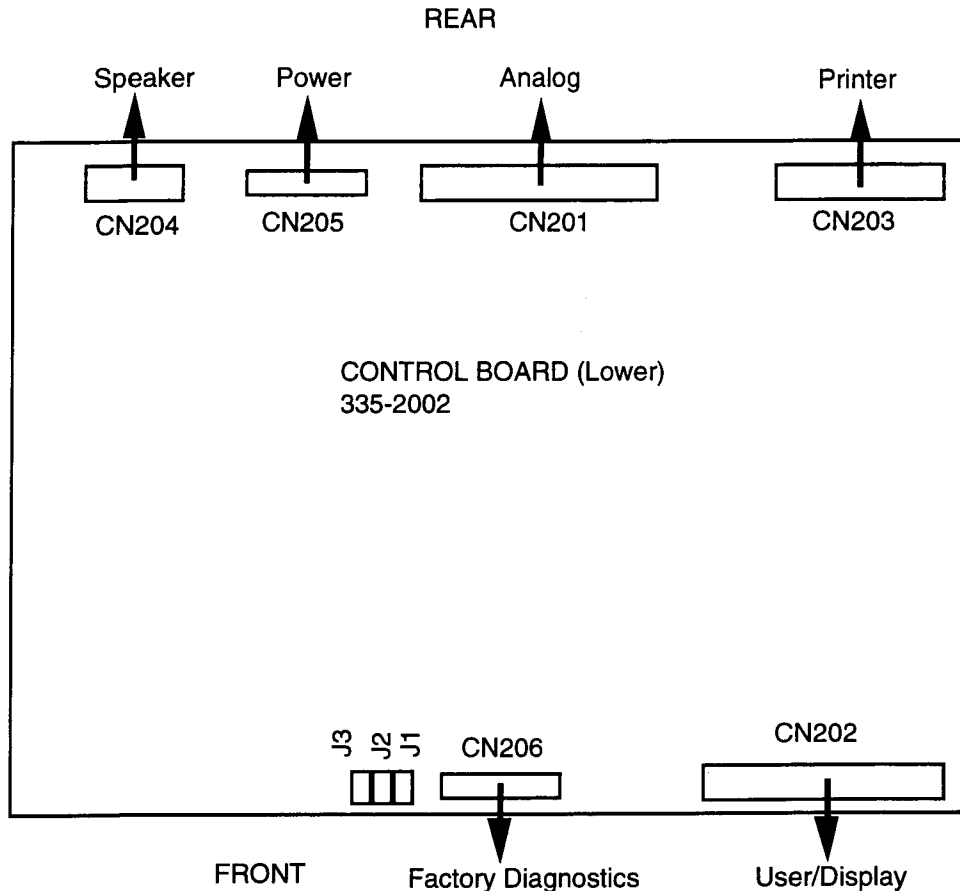

fig 5.1
- 5.1 All adjustments require removal of the top panel. To do this, make sure the machine is off, remove the 2 screws from the back of the top panel and lift the top cover backwards until it clears the case. Refer to figure 5.1 for location of jumpers and connectors